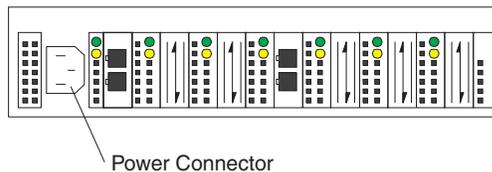

Figure 5. Power Connector
1. Connect the power cord to the Fibre Channel Hub, then to the electrical outlet. See Figure 5.